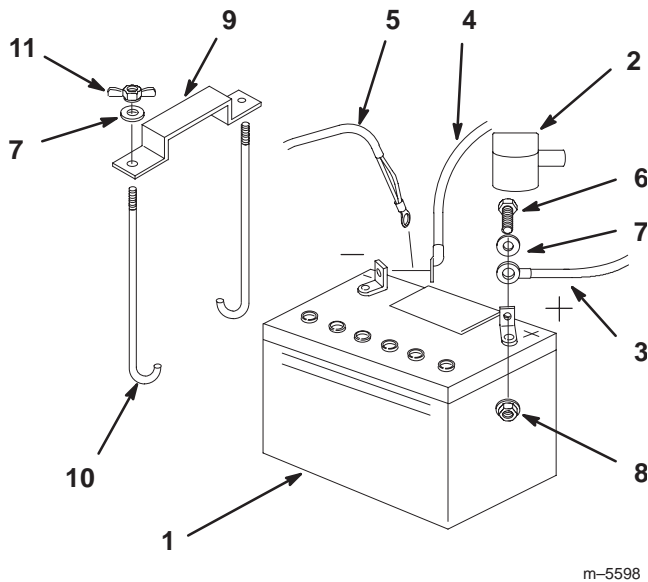

Figure 61
- Position battery in tray with terminal posts toward the engine (Fig. 61).
- Secure cables with 2 bolts (1/4 x 3/4 inch), 2 washers (1/4 inch), and 2 locknuts (1/4 inch) (Fig. 61).
- Secure battery with J-bolts, hold down clamp and 2 washers (1/4 inch), and 2 wing nuts (1/4 inch) (Fig. 61).
- First disconnect the negative battery cable and ground wire from the negative (-) battery terminal (Fig. 61).
- Slide the red terminal boot off the positive (red) battery terminal. Then remove positive (red) battery cable (Fig. 61).
- Remove both wing nuts (1/4 inch) securing the battery clamp (Fig. 61).